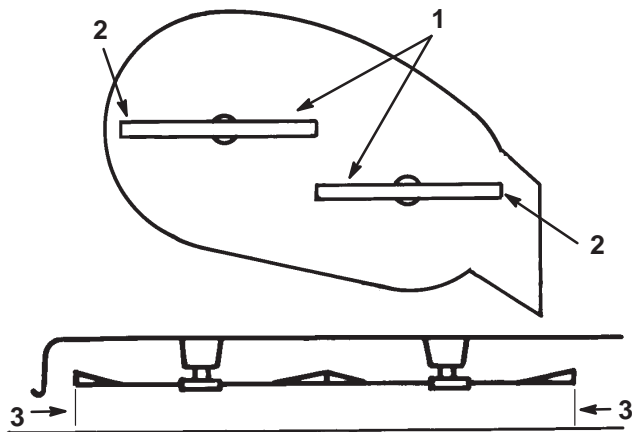

Figure 8
3. Carefully rotate blade(s) side to side (Fig. 8). Measure between the outside cutting edges and the flat surface (Fig. 8). If both measurements are not within 3/16" (4.762mm), an adjustment is required; refer to steps 4 and 6.
3. Carefully rotate blade(s) side to side (Fig. 8). Measure between the outside cutting edges and the flat surface (Fig. 8). If both measurements are not within 3/16" (4.762mm), an adjustment is required.